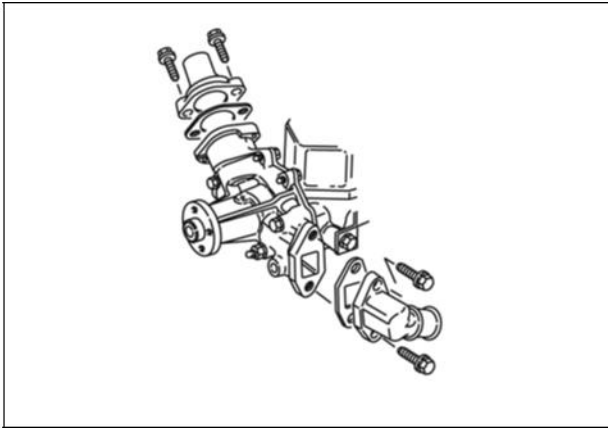

Figure 11
3. Install coolant inlet with new gasket (Figure 11). Torque screws to values listed in Section 14 - Engine Specifications.